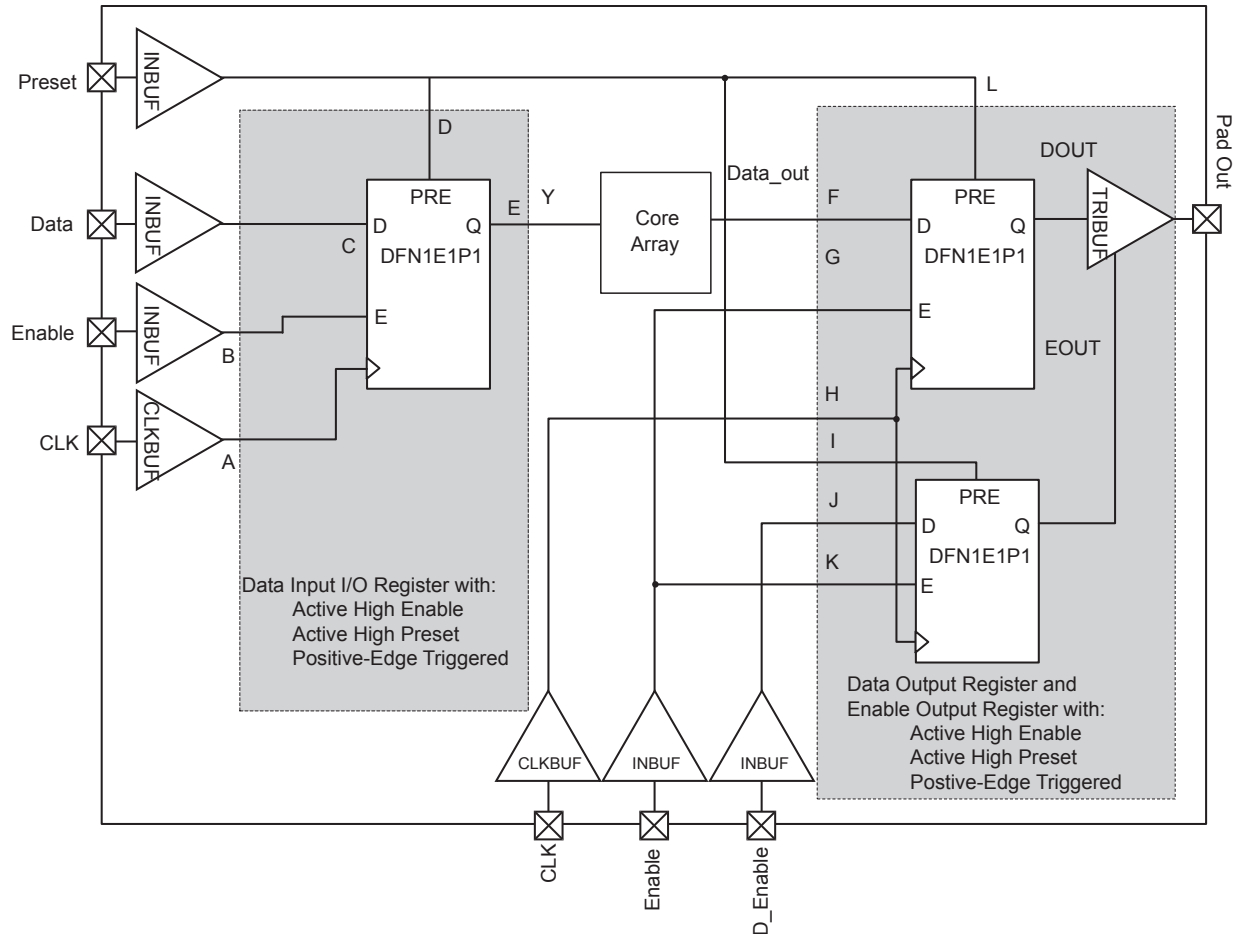

Figure 2-15 • Timing Model of Registered I/O Buffers with Synchronous Enable and Asynchronous Preset
*Note:* \*See Figure 2-15 on page 2-53 for more information.